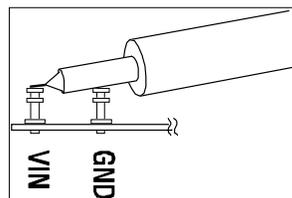

Figure 2. Measuring Input or Output Ripple
NOTE: When measuring the input or output voltage ripple, care must be taken to avoid a long ground lead on the oscilloscope probe. Measure the input or output voltage ripple by touching the probe tip directly across the Vin or Vout and GND terminals. See the proper scope probe technique in figure 2.
- Set the load current of both outputs to 3A and the input voltage to 15V, and then measure each output ripple voltage (refer to figure 2 for proper measurement technique); they should each measure less than 30 mVAC. Also, observe the voltage waveform at either switch node (pins 23 & 24 for reg.1 and 13 & 14 for reg.2) of each regulator. The switching frequencies should be between 800 kHz and 1.2 MHz ($T = 1.25 \mu\text{s}$ and $0.833 \mu\text{s}$). To realize 2 MHz operation, change the shunt position on header JP14. In all cases, both switch node waveforms should be rectangular in shape, and 180° out-of-phase with each other. Change the shunt position on header JP11 to set the switch waveforms in phase with respect to each other. To operate the ckt.s in Burst Mode™, change the shunt in header JP8 to the Burst Mode™ position. When finished, insert shunts XJP1 and XJP2 to the OFF position(s) and disconnect the power.